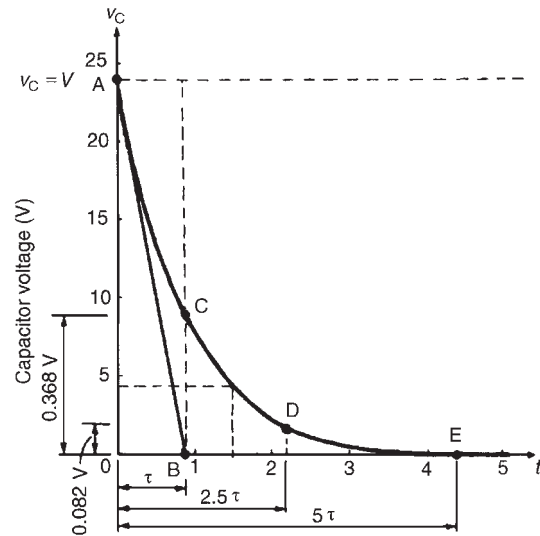

Figure 18.5
- (a) The exponential decay of capacitor voltage is from 24 V to 0 V in a time equal to five time constants, i.e. $5 \times 0.88 = 4.4$ s. With reference to Fig. 18.5, to construct the decay curve:
- (vi) the value of the transient after a time equal to two and a half time constants is 0.082 of the initial value, i.e. $0.082 \times 24 = 1.97 \text{ V}$, shown as point D in Fig. 18.5,
- (b) The voltage drop across the resistor is equal to the capacitor voltage when a capacitor is discharging through a resistor, thus the resistor voltage/time characteristic is identical to that shown in Fig. 18.5. Since $v_R = v_C$, then at 1.5 seconds after decay has started, $v_R \approx 4.4 \text{ V}$ (see (vii) above).